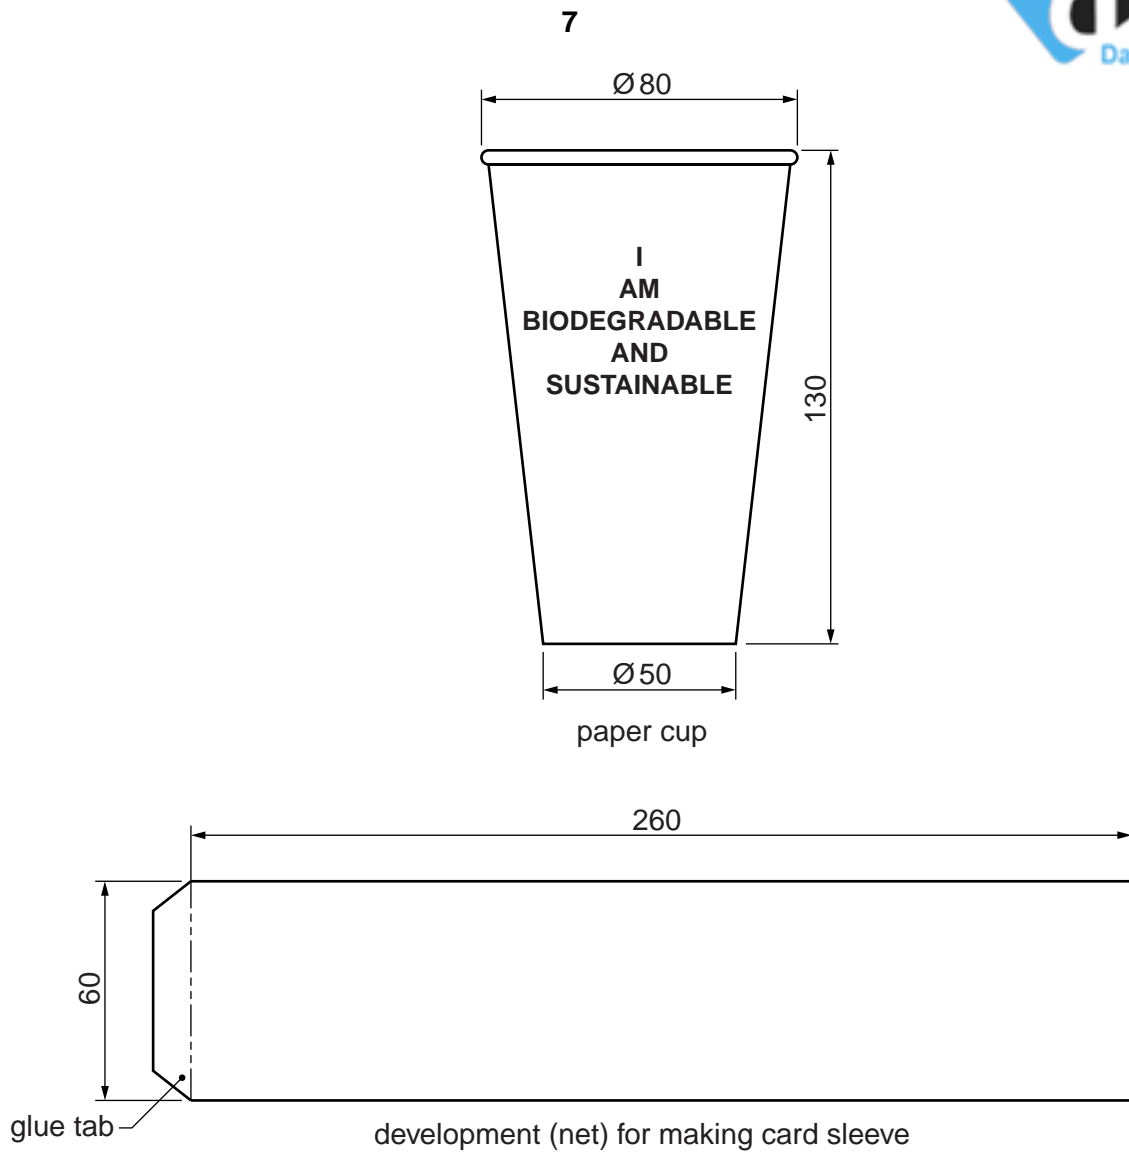

Fig. 4
- 4 Fig. 4 shows a design for a paper cup and the development (net) for making a card sleeve. The sleeve slides onto the cup and prevents people burning their fingers when they hold the cup filled with a hot drink.